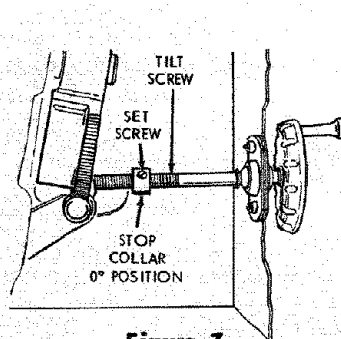

Figure 7
- (3) If the blade is not square with table top, rotate the tilt hand-wheel counterclockwise until the tilt mechanism moves a short distance away from the stop collar on tilt screw. When the pointer on tilt scale indicates approximately 10 degrees, the stop collar can be reached. (See figures 7 and 9.)
- (4) Loosen the two set screws in the stop collar, located on the tilt screw nearest tilt hand-wheel, with a small screwdriver and rotate the stop collar counterclockwise at least one turn. (See figures 7 and 8.)